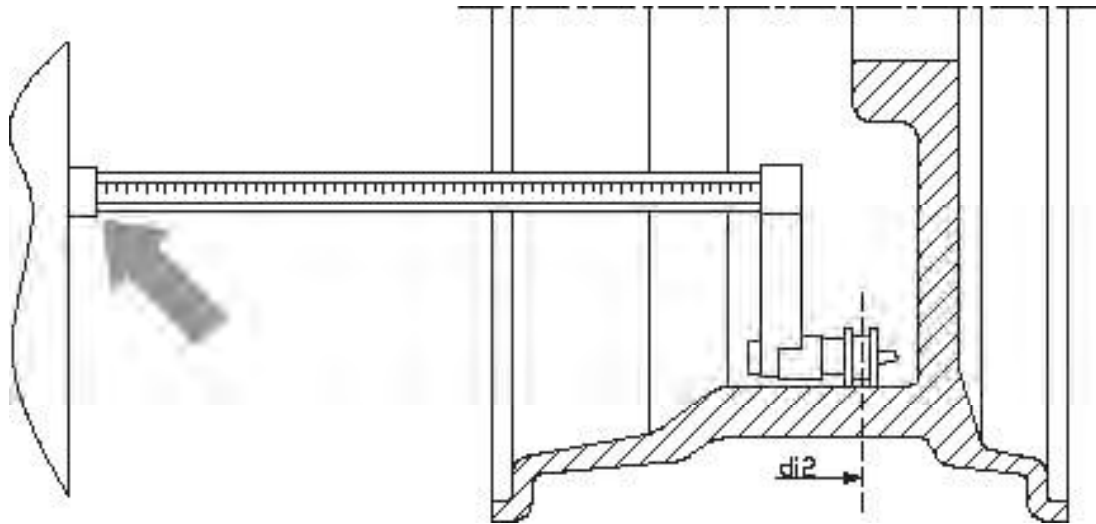

Figure F3.5 - Manual Acquisition of the external plane distance in the ALS1 and ALS2 Program Types
6. Extract the distance sensor and place it on the plane chosen for the external weight as shown in Figure F3.5;